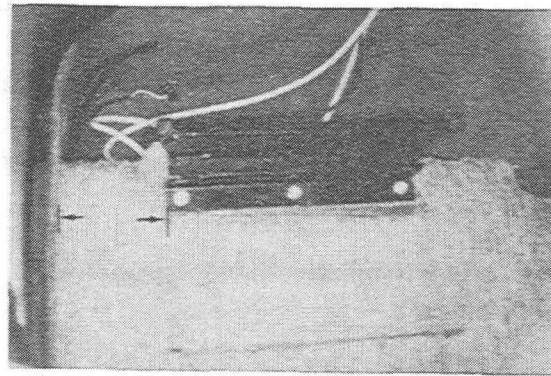

Figure 4
11. Measure back 12 cm from trunk sill panel to rear edge of CD changer bracket. Trace footprint of CD bracket onto trunk matting. Carefully cut matting along front and rear marks for bracket and fold matting inwards (Fig. 4).